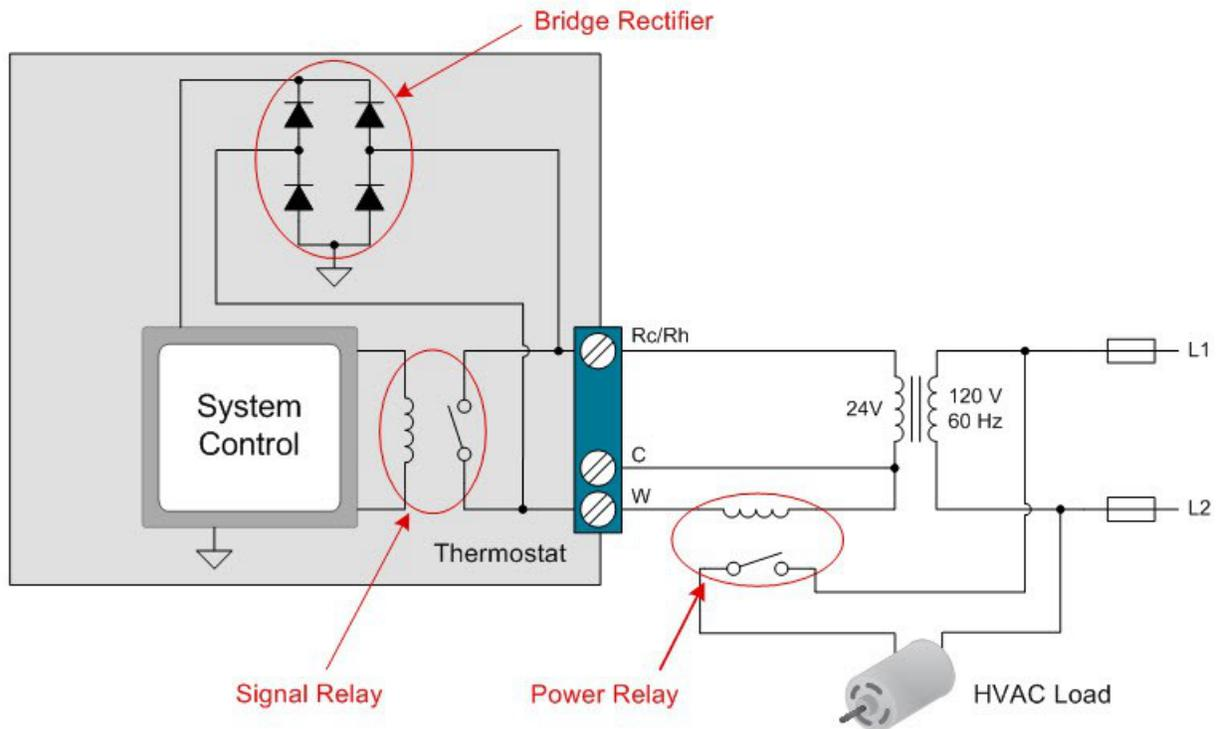

Figure 1. Single Thermostat Signal-relay Connection with HVAC Load
Two power sources are available for the thermostat: batteries and the 24VAC. Batteries are required for the thermostat to operate without interruption. It is very important that the energy consumed by the batteries is as low as possible, but even if you minimize consumption, this still isn’t a user-friendly option because batteries will require replacement from time to time. To reduce the replacement frequency, you can use the 24VAC supply. In systems where the C wire is not available, the bridge rectifier shown in Figure 1 converts the alternating current (AC) voltage through the load into a direct current (DC) voltage.